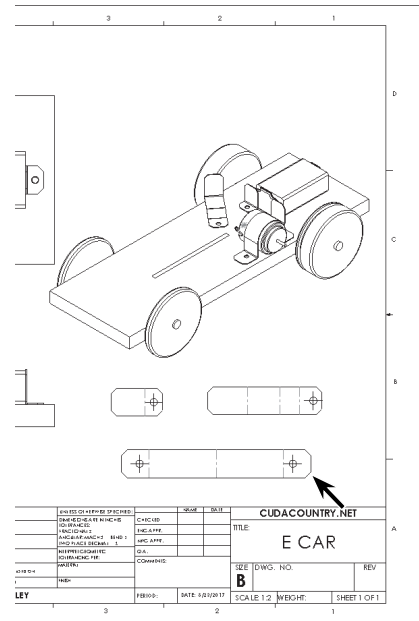

Fig. 12
Step 5. Move the cursor into the graphic area and click to place the motor mount flat pattern view as shown in **Fig. 12**.